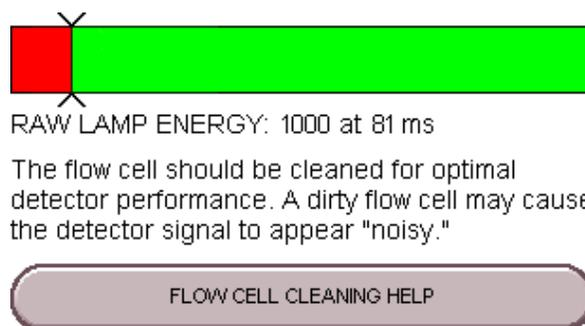

Figure 5-5 Raw lamp energy gauge
2. From the MANUAL CONTROL window, note the Raw Lamp Energy level at 254 nm. The Raw Lamp Energy gauge has two ranges: red and green. (Figure 5-5),
If the numerical values of the Raw Lamp Energy (Figure 5-5) do not change, or if the first number remains at zero, contact Teledyne ISCO's Technical Service department.
10. Perform the QUICK CLEANING AS REQUIRED (Section 5.5.2 and monitor the Raw Lamp Energy. (Figure 5-5)